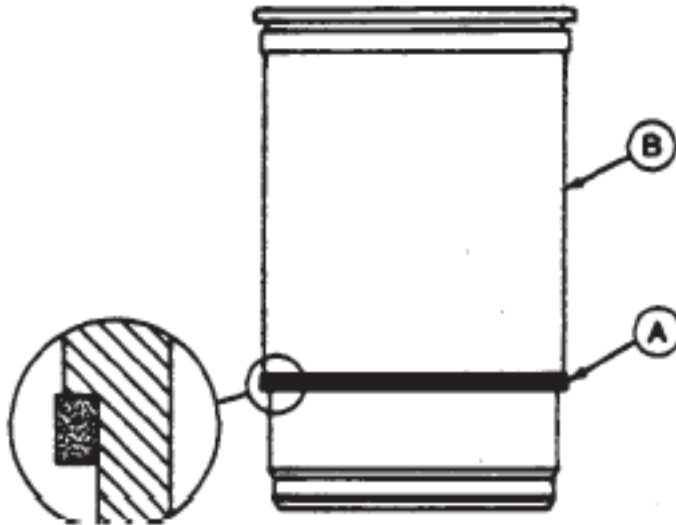

Figure 2. Sleeve Detail
- Turn cylinder liner (B) in Figure 2 upside-down. Dip square packing (A) in soap and install over outside of sleeve.